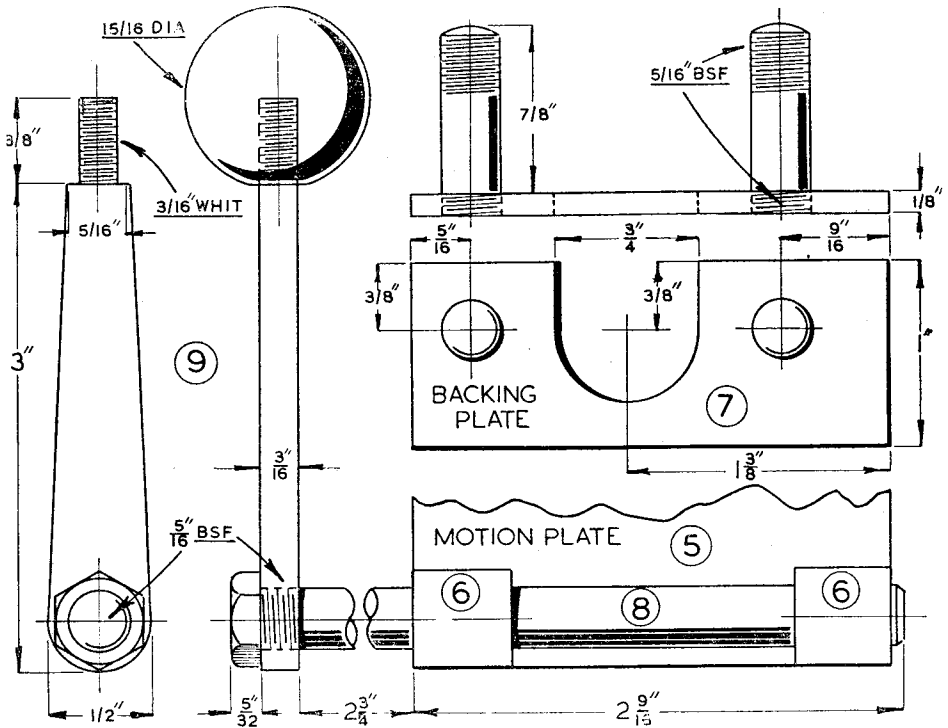

Fig. 6. The backing plate and operating shaft and handle
limb of the lathe quadrant by means of a backing plate (7) fitted with two studs and nuts. The dimensions of this part are given in Fig. 6.
The operating shaft (8) Fig. 6, can now be made and threaded for the attachment of the hand lever (9) which is secured in place by a lock-nut.